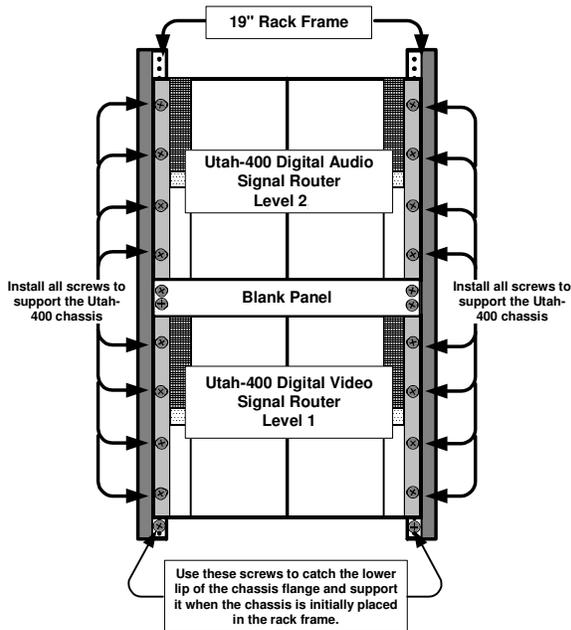

FIGURE 2-2. Utah-400 Chassis Mounted in 19" Rack Frame
**Note:** See Figure 2-2 for an example rack frame layout.